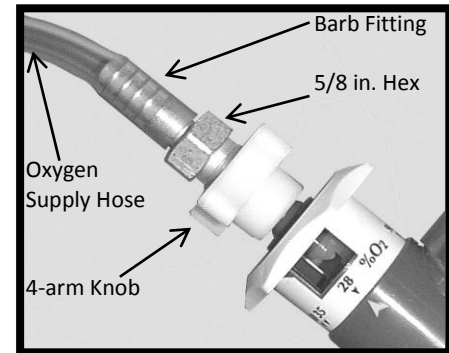

Figure 20: Nebulizer Barb Fitting
1. Push one end of the oxygen supply hose onto the barb fitting on top the bottle (Figure 20). **Note:** A small amount of grease on the barbs will ease assembly.
The hose barb fitting connects the oxygen supply hose to the nebulizer (Figure 20). To replace the fitting: